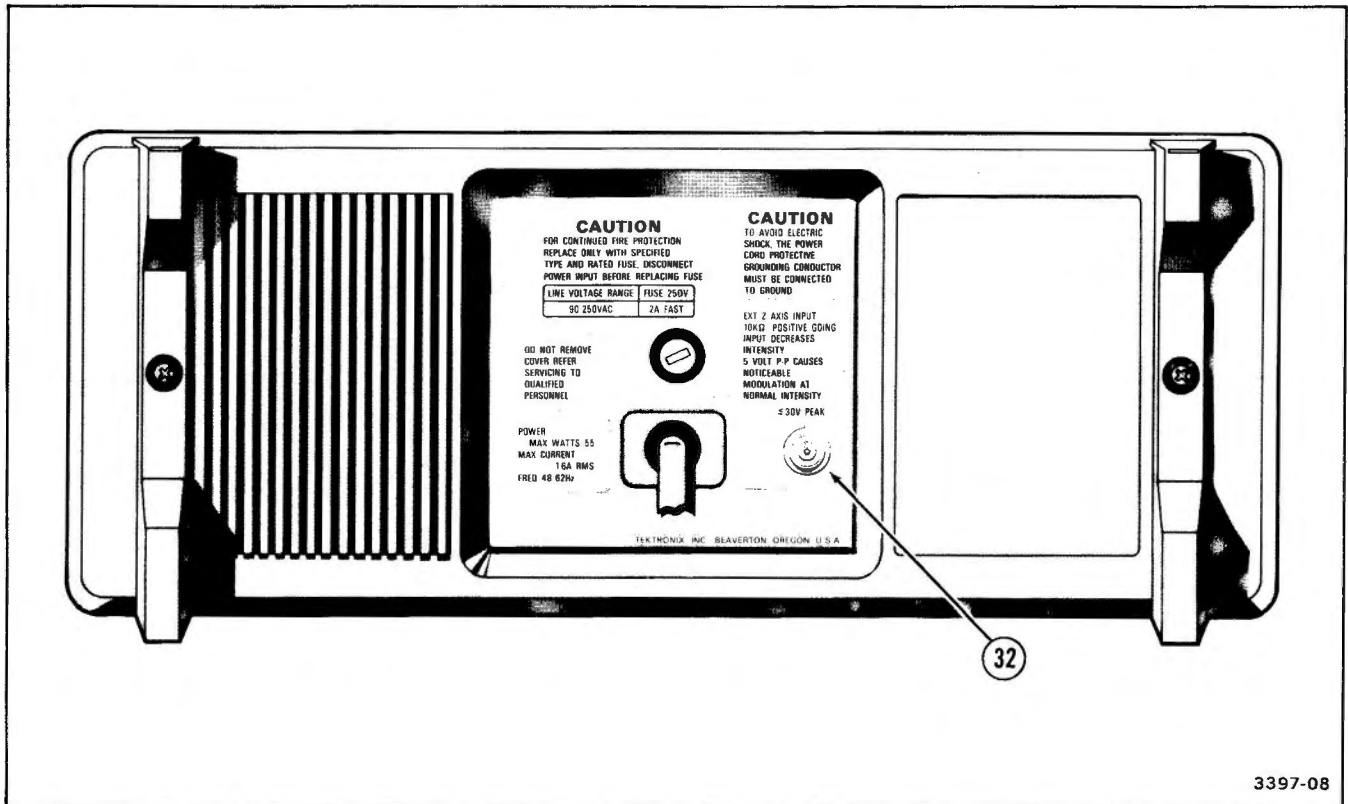

Figure 2-7. Rear-panel connector.
Refer to Figure 2-7 for location of item 32.
- ③2 EXT Z AXIS Connector—Provides a means of connecting external signals to the Z-axis amplifier to